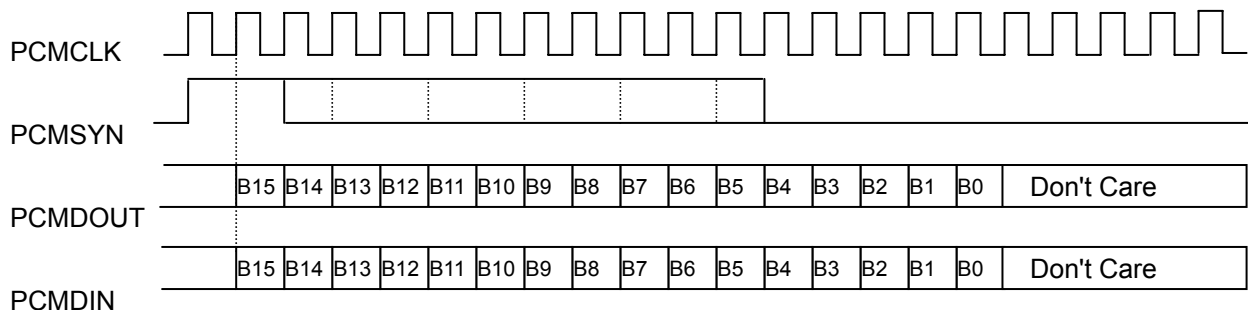

Figure 27-3 Long Frame SYN Timing (Shown with 16bit Sample)
- 1 Figure 27-3 shows a PCM transfer with the MSB configured one shift clock after the PCMSYN.